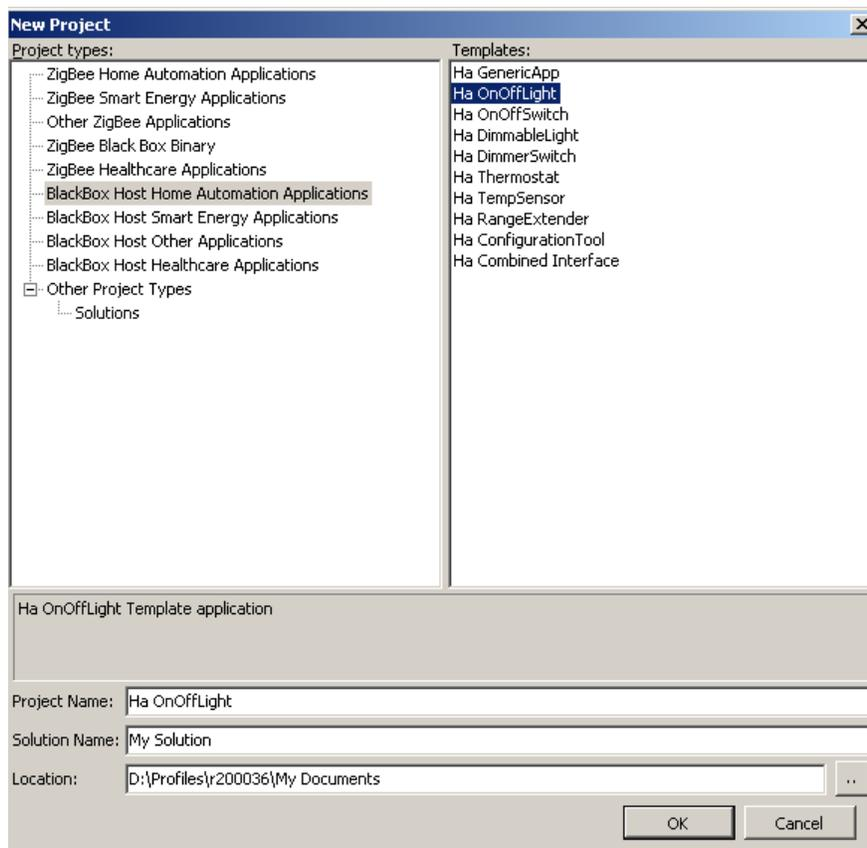

Figure 8-1. New Project Window
3. In the New Project window shown in Figure 8-1, review the available ZigBee Host templates located in the Project types display area. Be sure to review and select only those types that have titles beginning with “BlackBox Host”. For example, BlackBox Host Automation Applications.